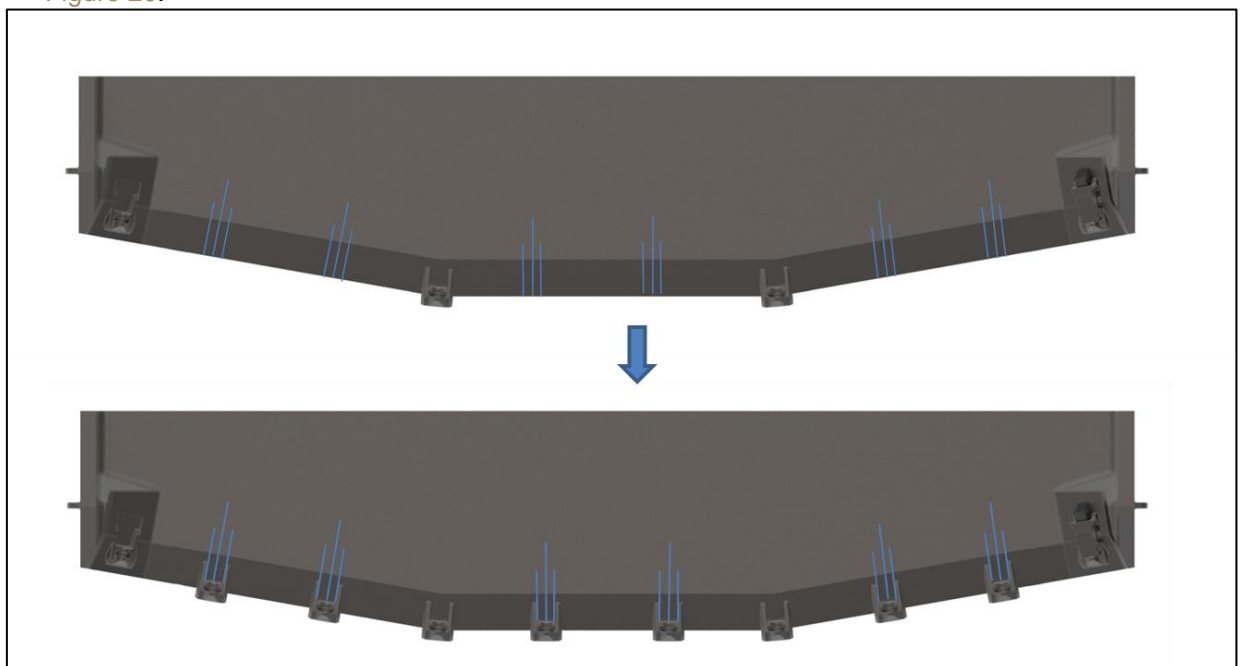

Figure 20 Boss location mark-up
2.12.8. Mark 29 mm parallel lines to the center line similar to sketch as mentioned in step 2.12.5. Refer Figure 20.